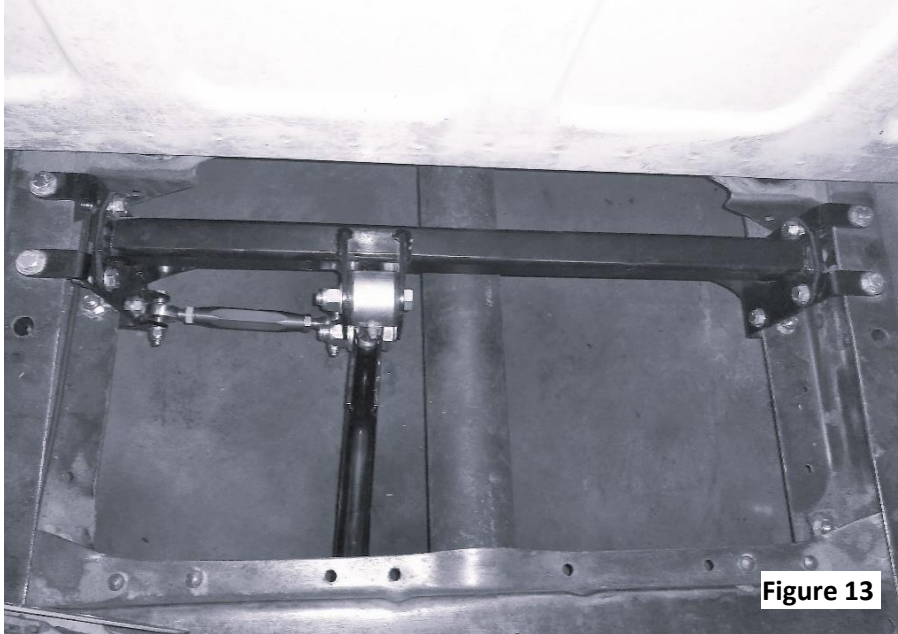

Figure 13
3. Locate the torque arm crossmember, for long box trucks the bracket needs to be centered under the 2nd from the front bed cross rail. On short box trucks, the bracket should be mounted up against the cab mounts as shown in **Figure 13**.